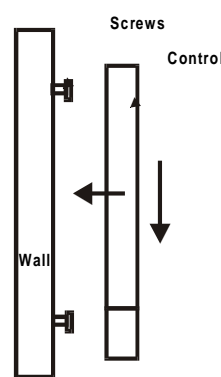

Fig 4
- d. Mount the base to the wall or if a mounting plate is being used to the mounting plate. Use the screws as supplied (fig.4).